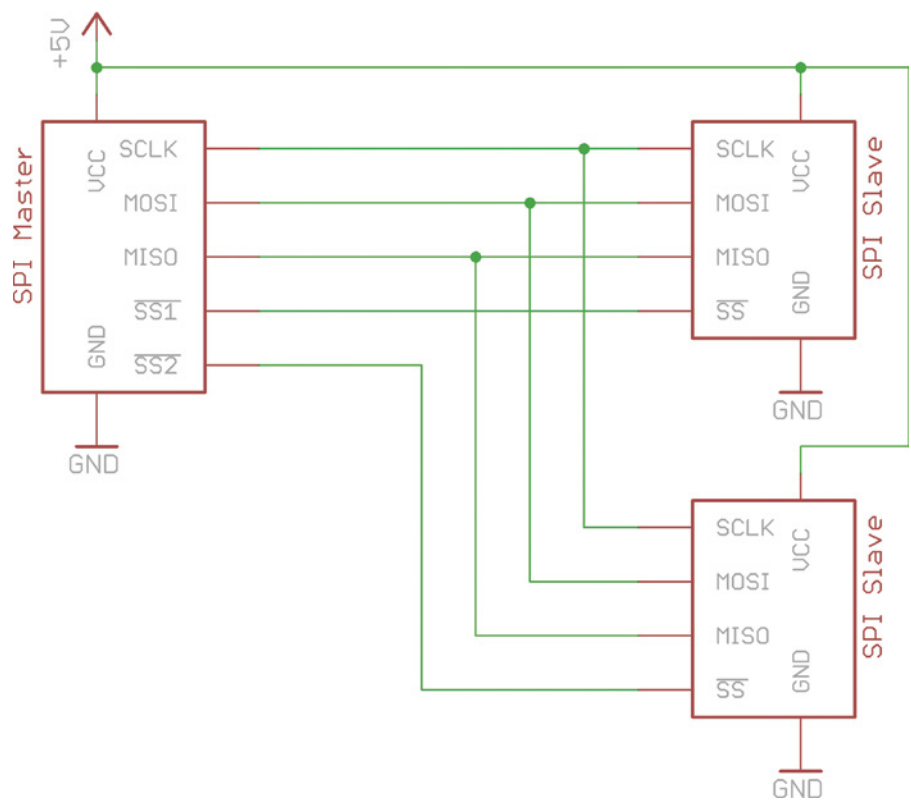

Figure 11-1: SPI reference hardware configuration
Each slave device also requires an additional slave select (SS) pin. Hence, the total number of I/O pins required on the master device will always be $3 + n$, where n is the number of slave devices. Figure 11-1 shows an example SPI system with two slave devices.